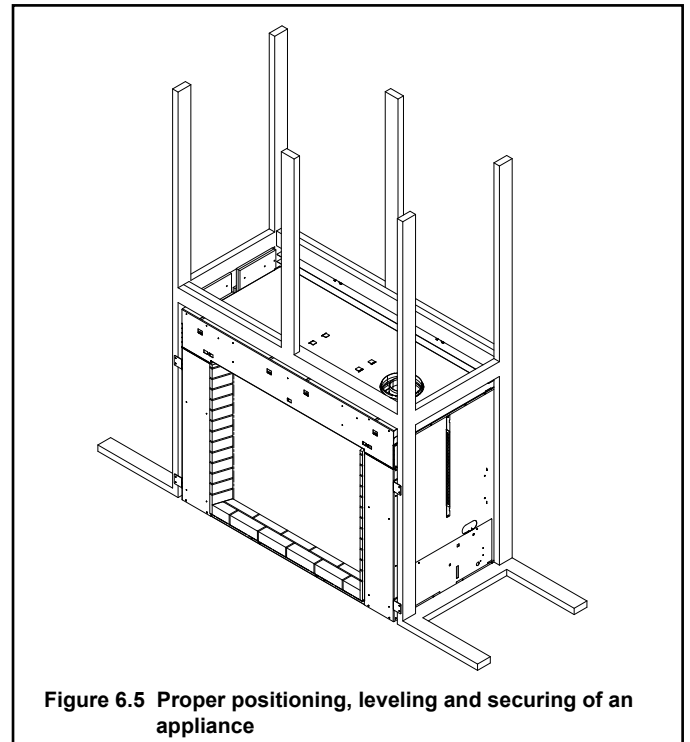

Figure 6.5 Proper positioning, leveling and securing of an appliance
4. Six sheet metal finishing strips are included with the appliance. The shipping location of the finishing strips is shown in Figure 6.3. Remove 1/4 in. screws that attach the strips to the appliance. Strips may be used during the final finishing steps of appliance setup. See Figure 6.5. Strips should be removed when finishing is completed.
The diagram shows how to properly position and secure the appliance. See Figure 6.5. Nailing tabs are provided to secure the appliance to the framing members.